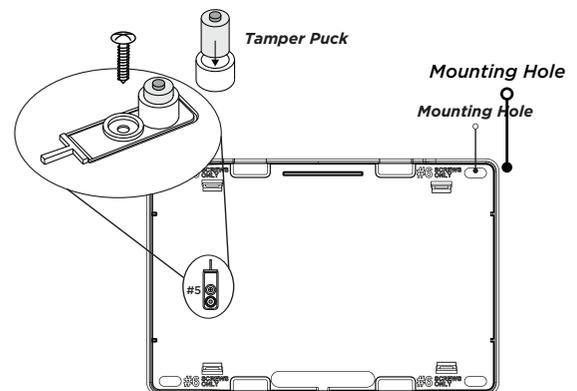

Figure 1: Inside of the 1100XH Housing
2. Use the included #6 screws to secure the 1100XH to the wall. See Figure 1 for mounting hole instructions.
3. Use one of the provided screws to secure the wall tamper. See Figure 1 for tamper location.